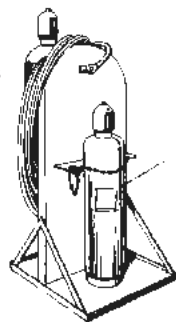

Figure 13
- Do not use slings or magnets for hoisting cylinders. Use a suitable cradle or platform (Figure 13).